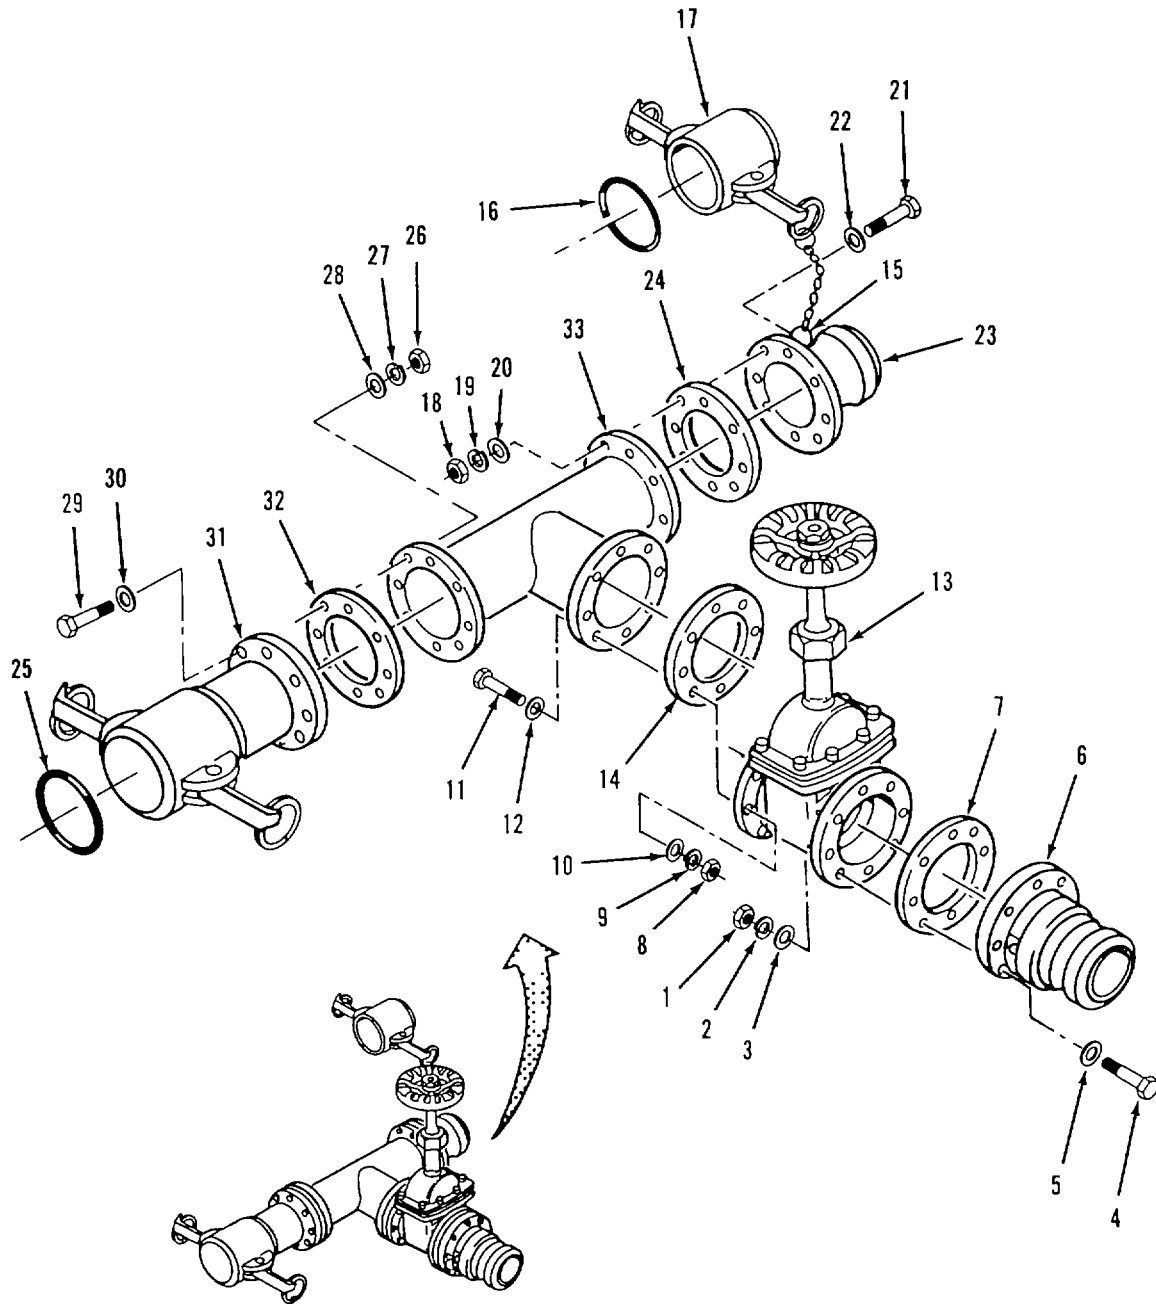

Figure 4-34. Tee and Gate Valve Assembly (9114-Y2) Assembly.
- (1) Refer to para 4-27 to repair gate valve.
- (2) Replace defective components Do not reuse sealing components.
- e. Assembly. Refer to figure 4-34.
- (1) Position gasket (32) and female coupling (31) on tee (33).
- (2) Install eight flat washers (30), screws (29), flat washers (28) lockwashers (27) and nuts (26).